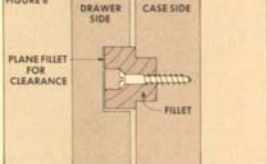

FIGURE 9
**THE PLINTH.** The plinth (or kick board) is assembled with rabbeted box joints (see next page). After cutting the box joints, the top edges of these three pieces are chamfered at 45°, Fig. 9.